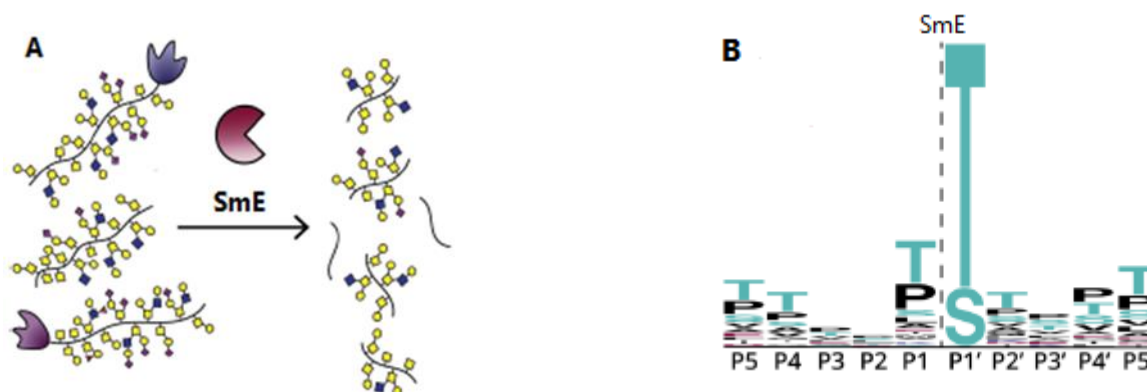

Figure 1: (A) Mucinase SmE is a highly active protease on densely glycosylated mucins. (B) Depiction of consensus sequence and specificity.¹¹
Mucinase SmE cleaves N-terminally to a glycosylated Ser or the residue, Figure 1 (B) depicts the consensus sequence.¹¹ The recognized site accommodates a variety of O-linked glycans at the P1' position, including sialylated core 1 and core 2 O-linked glycans as well as fucosylated ABO blood group antigens. When benchmarked against other proteases known to target O-glycoproteins like OgpA and ImpA, SmE has been shown to perform better in terms of tolerance for site occupancy and glycoform complexity.¹¹